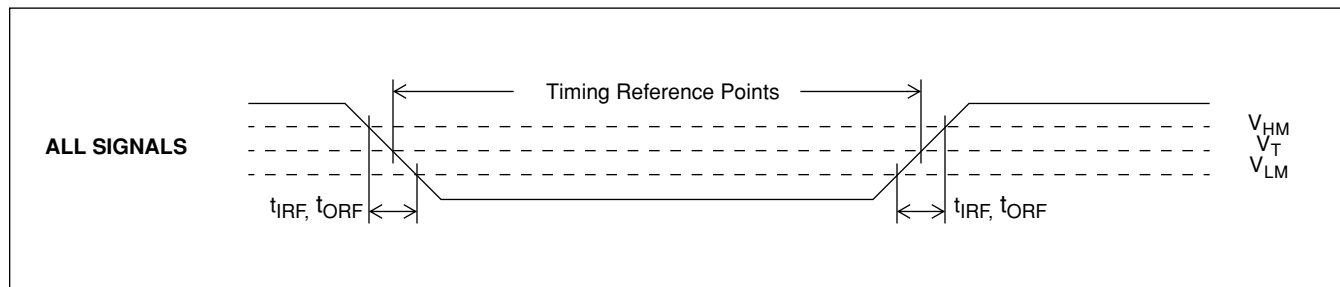

Figure 8 - Timing Parameter Measurement Voltage Levels
The output clock should be connected directly (not AC coupled) to the OSCi input of the MT9040, and the OSCo output should be left open as shown in Figure 8.
* See Figure 8.